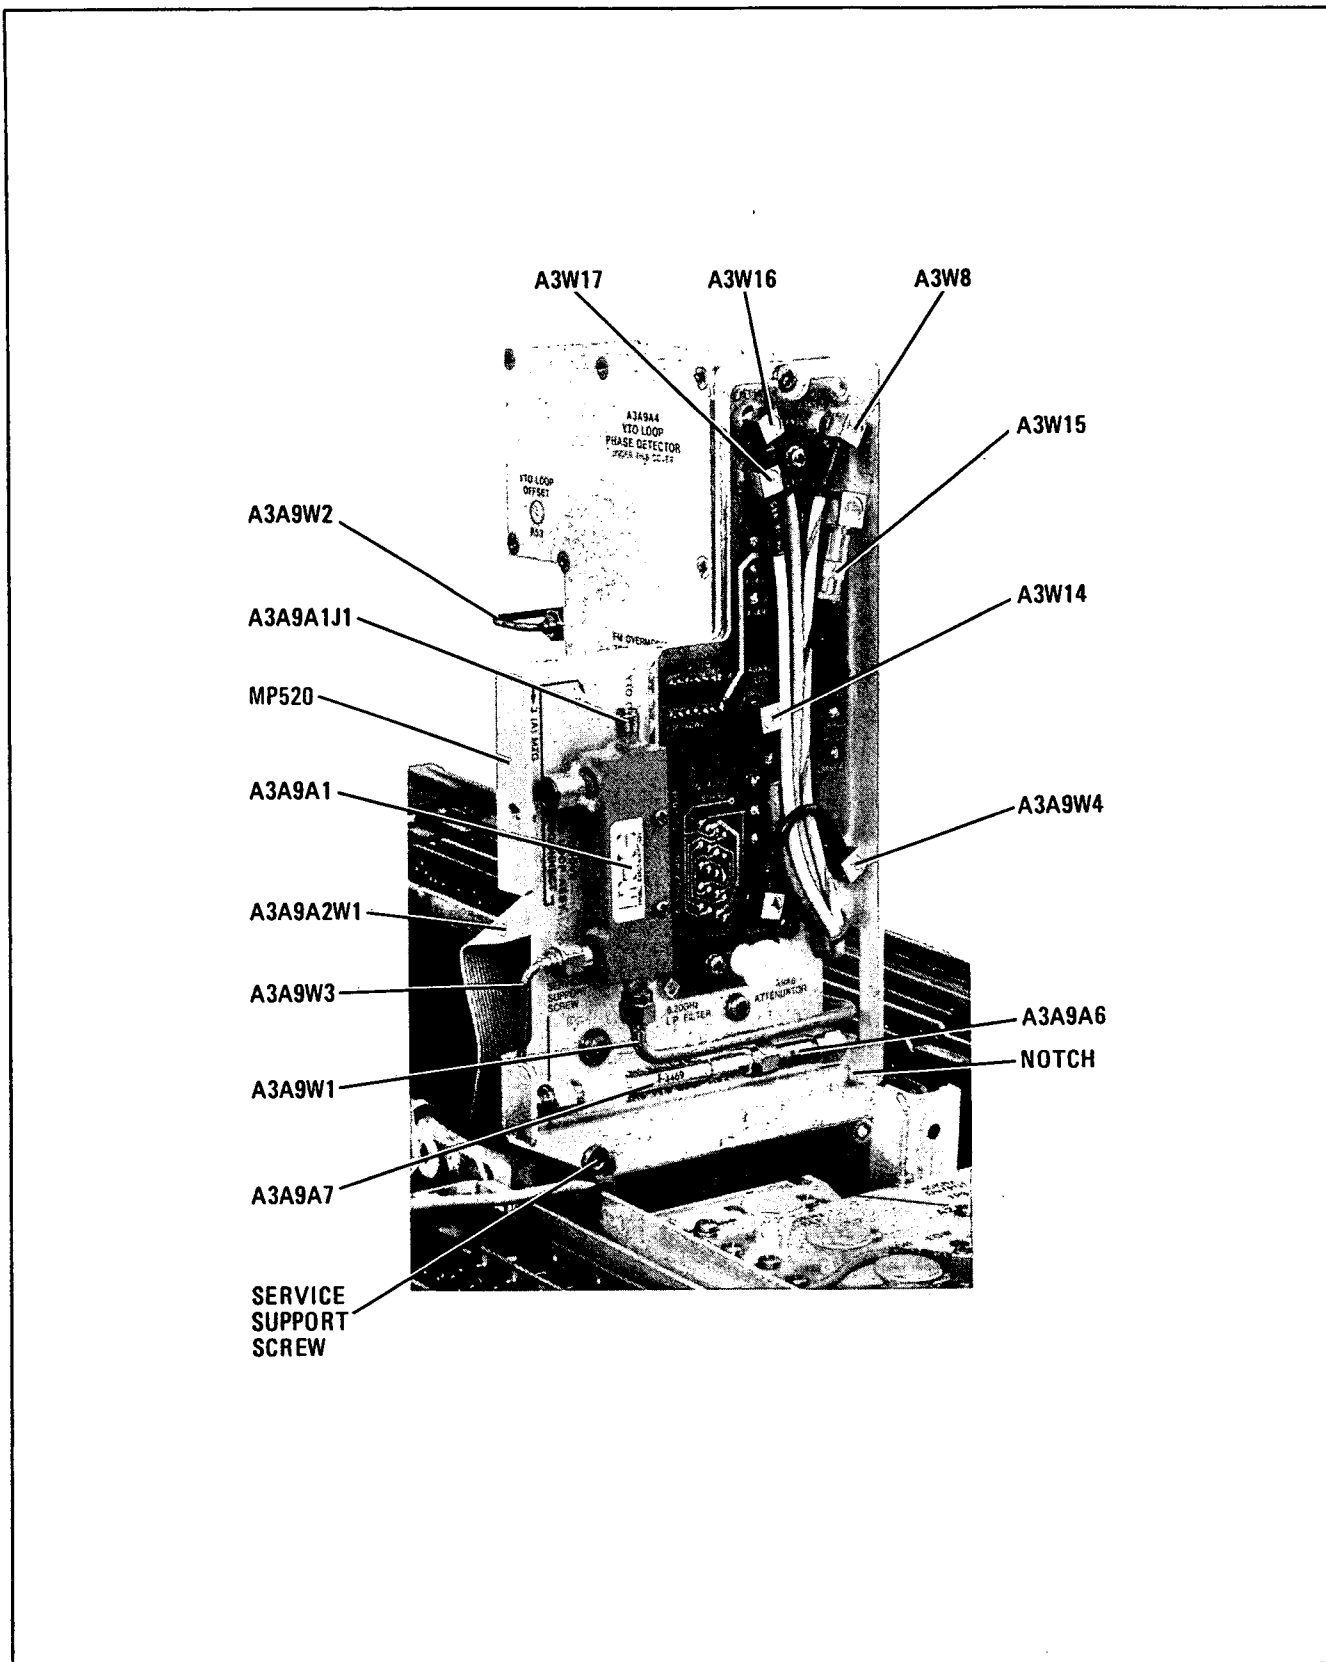

Figure 8-130. YTO Assembly in Service Position
5. Refer to Figure 8-130 for the following steps.
3. Refer to Figure 8-130 for the following steps.